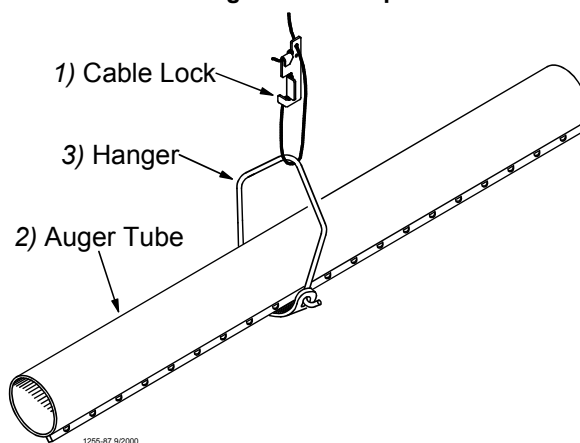

**Figure 40. Tube Clamp and Tube Clamp with Anti-Roost Bracket**
4. Place a Tube Clamp Assembly or Clamp/Anti-Roost Bracket at each joint. **Figure 40** shows the standard Clamp and Clamp/Anti-Roost Bracket.